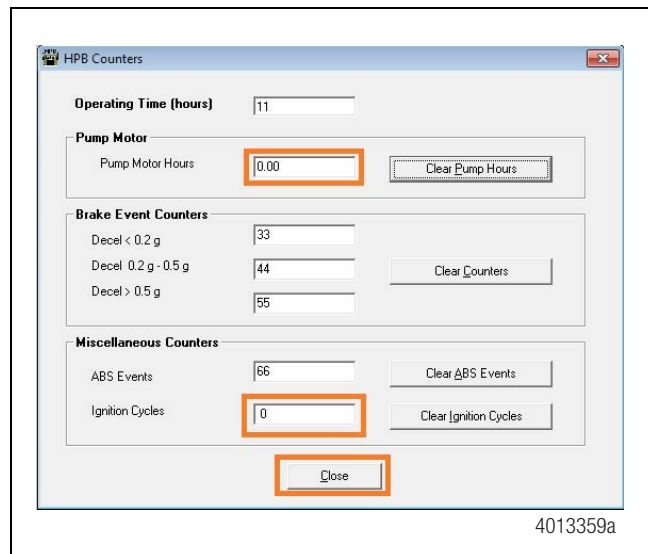

Figure 3.11
- When both the Pump Motor Hours and Ignition Cycles counters are set back to ZERO, select **Close**. Figure 3.11.